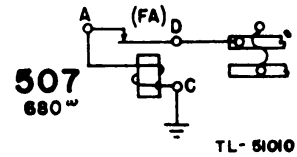

Figure 44. Fuse alarm circuit, schematic diagram, Panel BD-90.
27. FUSE ALARM CIRCUIT (fig. 44). When a grasshopper battery fuse blows, its spring makes contact with the alarm stud of its fuse block. Battery on the spring connects through the FA buzzer to ground, and operates the FA buzzer as a warning signal that a fuse has blown. When the fuse is removed from the fuse block, the FA buzzer is silenced.